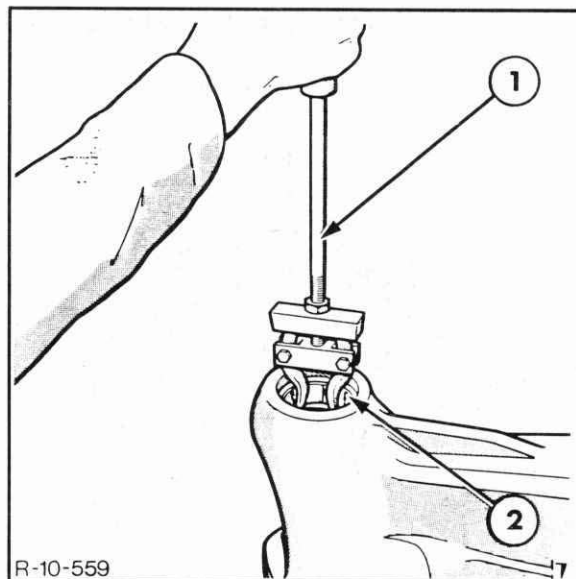

Figure 7-97
1. Using puller tool No. 943 and 943C (9507 and 9567), or 954C (9508), extract the outer bearing race from the axle center casing, Figure 7-97.